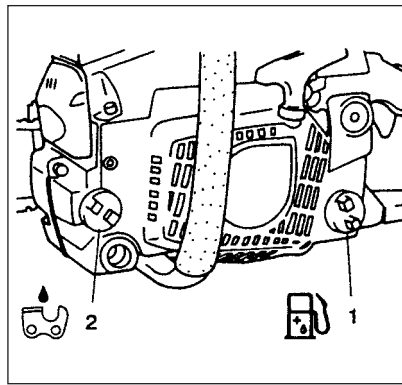

Fig. 2-1B
⚠ WARNING! (Fig.2-1B)
Chain oil (Fig. 2-1B)
When pouring fuel (1) or chain oil (2) into the tank, place the unit with cap side up. (Fig. 2-1B)